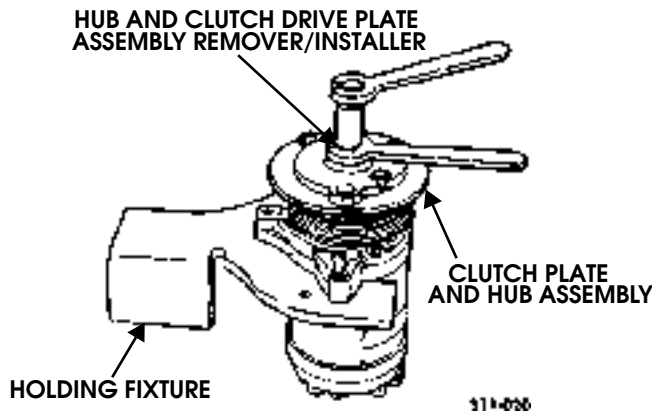

Figure 11-27: Clutch Plate and Hub Assembly
4. With center screw forcing tip in place to thrust against the end of the shaft, thread the hub and clutch drive plate assembly remover/installer into the hub. Hold the body of the remover with a wrench, and turn the center screw into the remover body to remove the clutch plate and hub assembly (Figure 11-27).